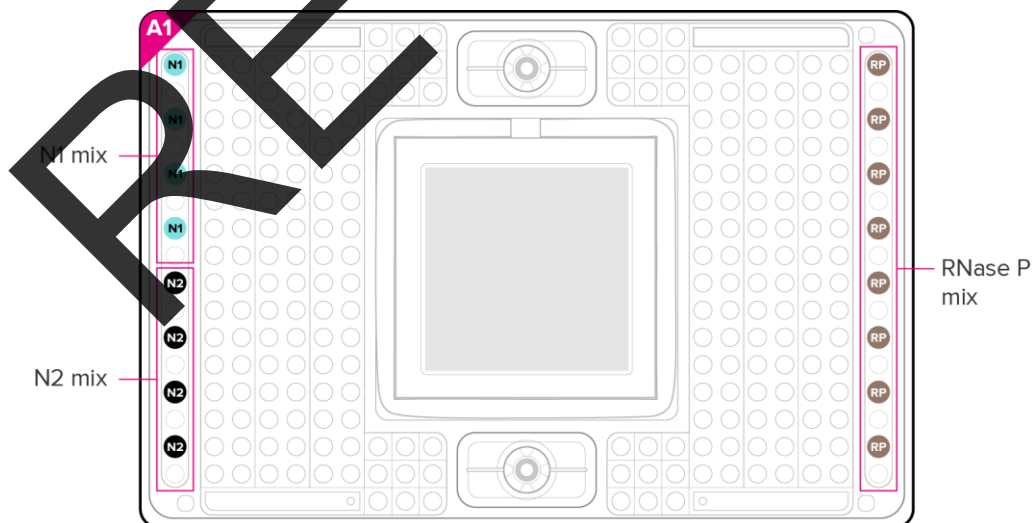

Figure 8. Pipetting map for PCR mixes
- 2 Pipet 5 μL of each PCR mix (N1, N2) as shown in Figure 8: N1 and N2 each into 4 inlets on the left side of the IFC and RNase P into 8 inlets on the right side of the IFC.